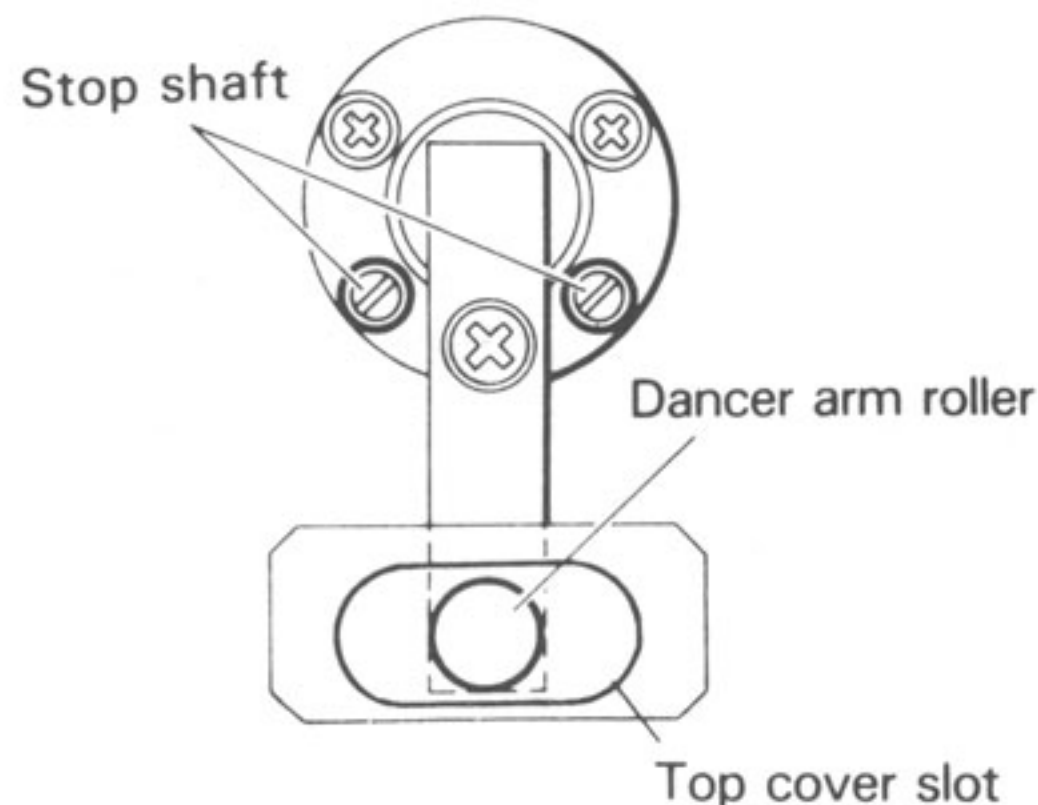

Figure 7-8. Tension Arm Centering
STEP 2. Press PLAY, and adjust RV1 on the RMD II board until the supply tension arm is centered between the two stop shafts on the tension arm assembly, as shown in Figure 7-8.
STEP 3. Adjust RV3 on the RMD II board until the take-up tension arm is centered between the two stop shafts on the tension arm assembly, as shown in Figure 7-8.
STEP 3. If the dampening is unsatisfactory, turn the adjustment screw on the supply tension arm dampening dashpot, as shown in Figure 7-8, clockwise to increase the dampening or counter-clockwise to decrease the dampening. Return to STEP 2.